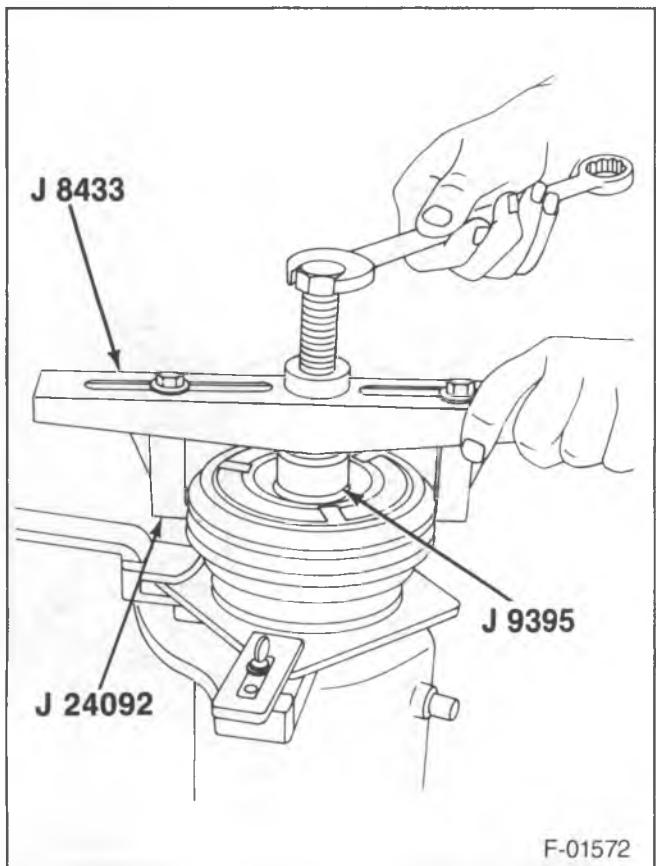

Figure 7—Removing the Pulley and Bearing
- Install J 9395 over the end of the compressor shaft (39) (figure 7).